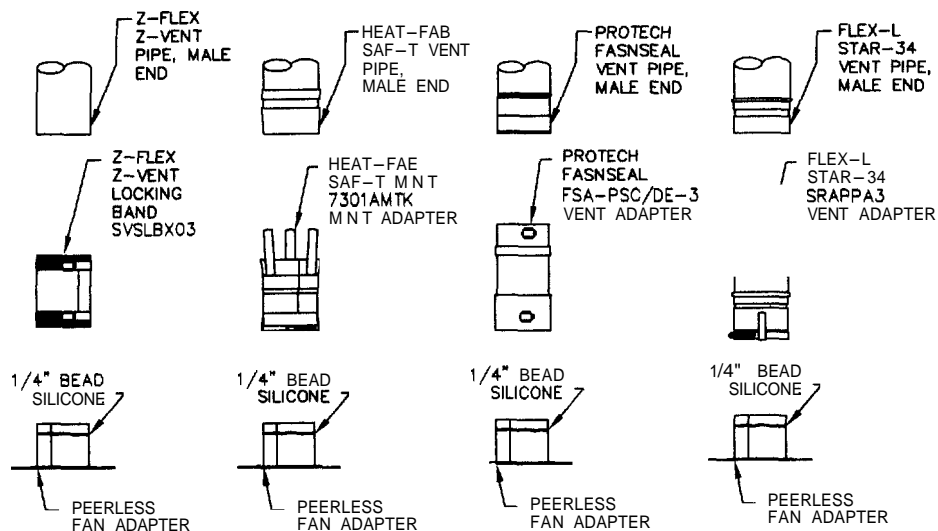

Figure 11: Vent Connection to Boiler
3. Connect vent pipe to boiler by spreading a 1/4" bead of high-temp GE-106 silicone or Silicones Unlimited 5 Red around the fan up. Attach proper vent adapter to fan adapter (1 1/2" diameter) Z-Flex vent pipe/fitting connects directly fan adapter, secure to fan adapter using Z-Flex lock band. See Figure 11.